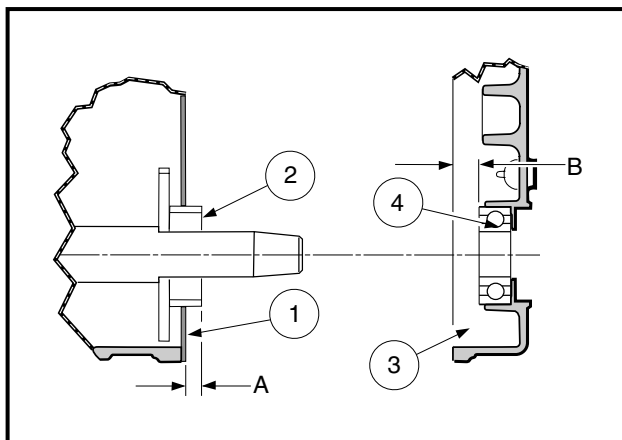

Figure 13-97 Determine Crankshaft Shim Size
1. With the gasket installed on the crankcase, measure from the gasket surface (1) to the helical gear surface (2). Record measurement (A) (Figure 13-97, Page 13-45).
2. Measure from the crankcase cover (3) mounting face to the crankshaft bearing inner end (4). Record measurement (B) (Figure 13-97, Page 13-45).